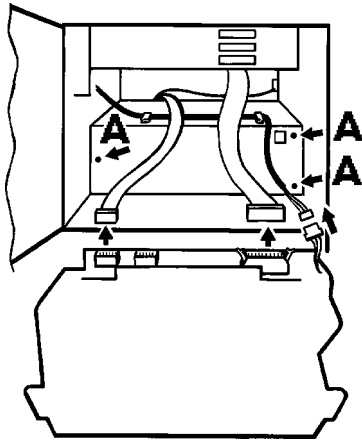
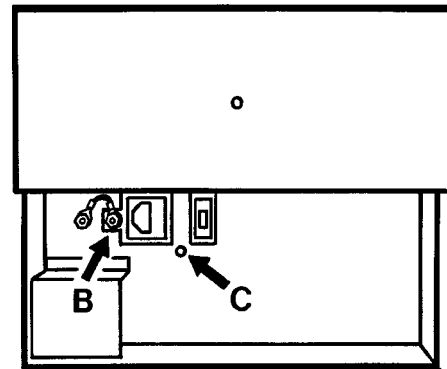

Figure 4.8.2a PSU securing screw locations
Figure 4.8.2b PSU release (rear view)
2. Release the Power supply unit from the front, using screws 'A' in figure 4.8.2a, then from the back, by removing the safety earth (nut 'B' in figure 4.8.2b) and securing screw 'C'.